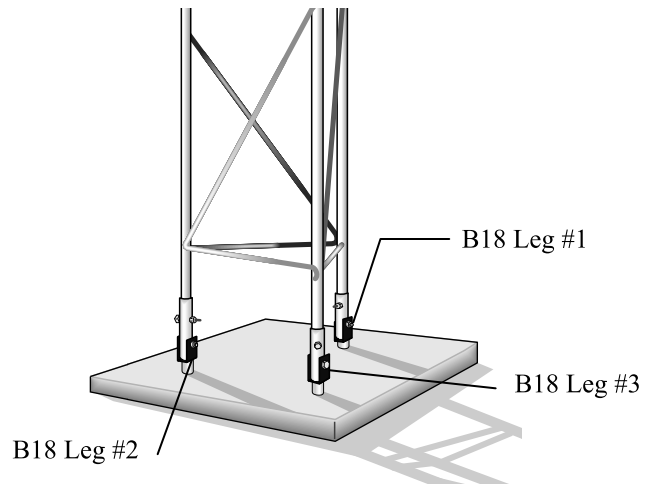

FIGURE 2.1-4. B18 concrete mounting base
4. Center the bottom tower section with the base attached in the hole. Orient the tower/base for the proper hinge direction. Make sure that the top of the legs will be at least 1/2" above the finished height of the concrete (Figure 2.1-4).